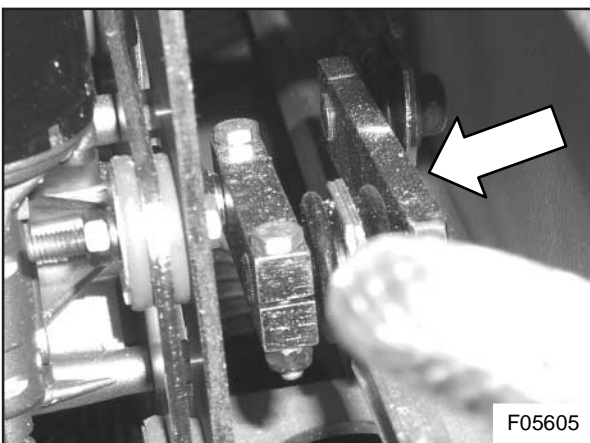

Figure 13 : Linkage installed horizontally
- 13) Reinstall the linkage horizontally on the wiper motor shaft as shown in Figure 13. Make sure the motor shaft end is *flush* with the clamp.